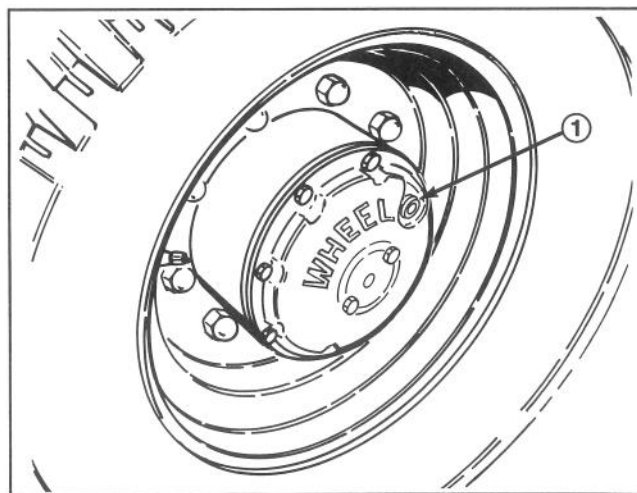

Figure 48
1. With machine on level surface, position wheel so the check/drain plug is at either three or nine o'clock position (Fig. 48).
3. When oil has drained, position wheel so plug hole is at three or nine o'clock position (Fig. 48).